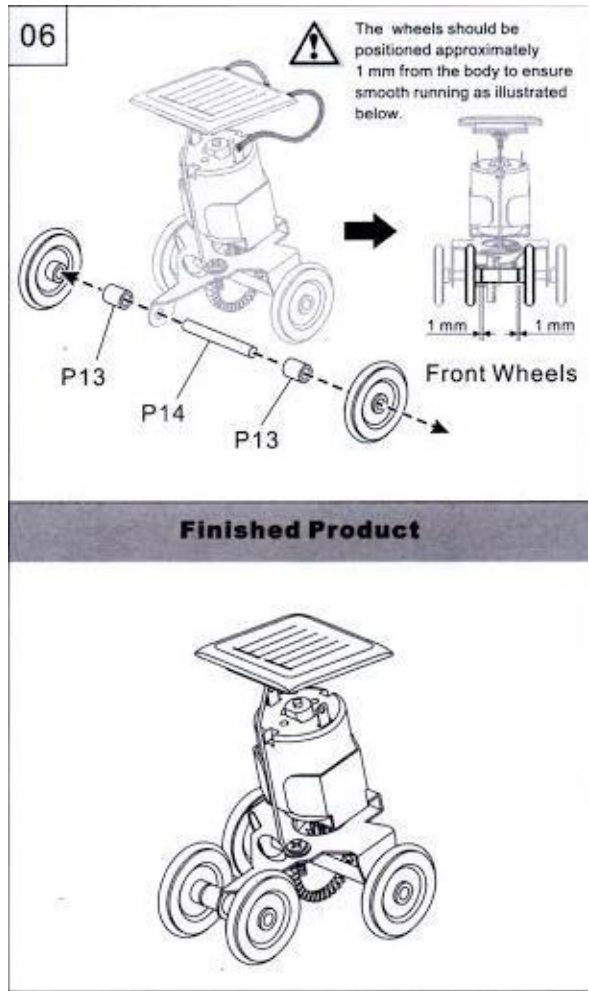

Fig. 9 The finished solar racer
6. Attach the two front wheels, again leaving a 1mm clearance between the wheels and the mount. See Fig. 9